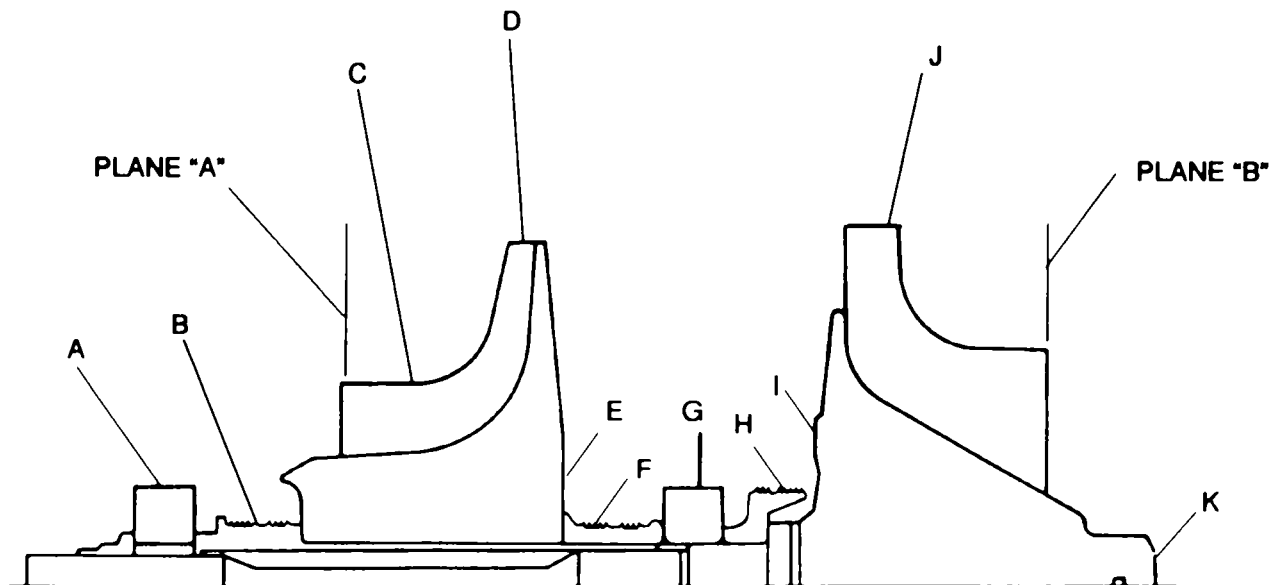

Figure 8-13. Obtaining Reading for Turbine Shaft Stretch Using Fabricated Tools FT-21540 and FT-21565
(11) Install assembly in bench center. Maintain 0.002 inch (0.005 cm) runout on total stackup, points A thru J on Figure 8-13. Remove assembly from bench center.